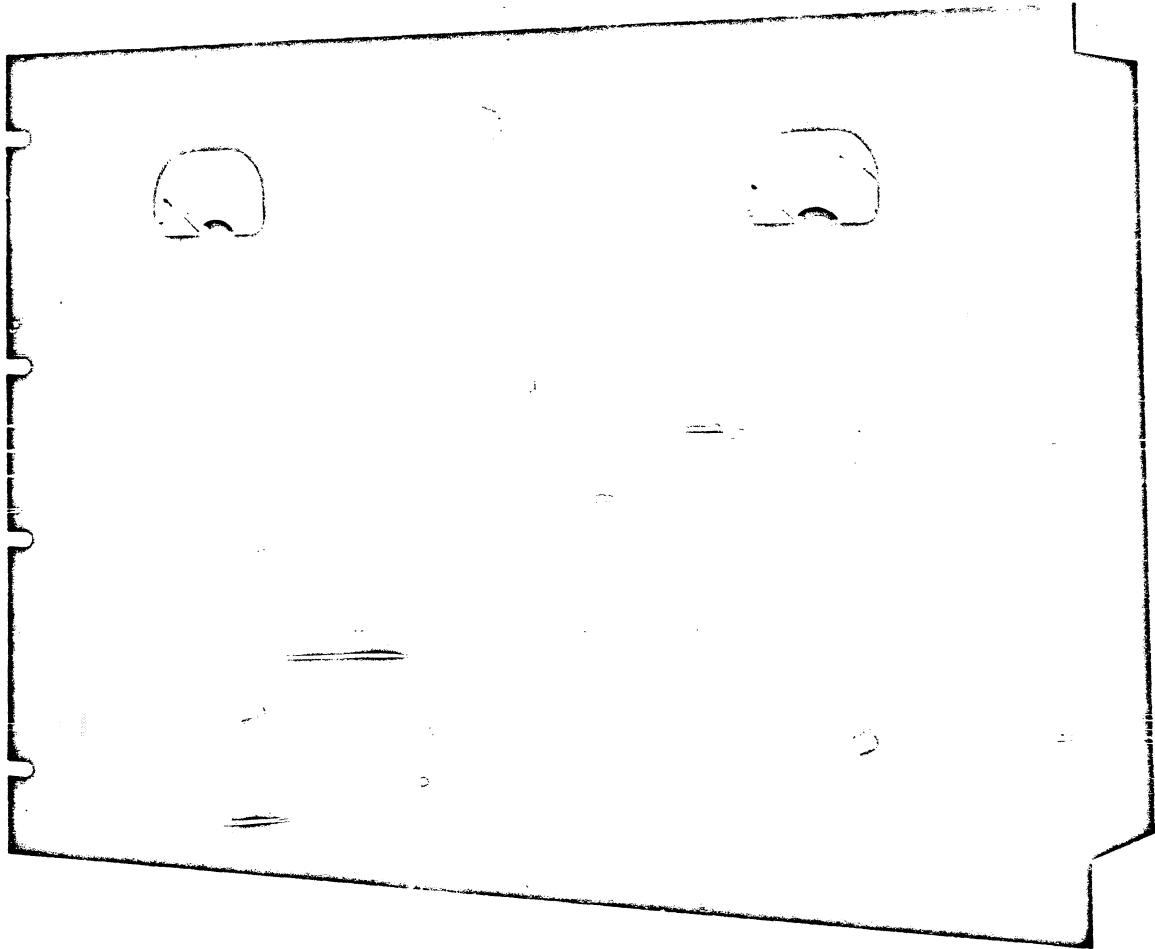

Figure 1-1. Type 26 W Limiting Amplifier
a. This instruction book is to be used as a guide to the installation, adjustment, operation and maintenance of the Collins Type 26W Peak Limiting Amplifier. Refer to Figure 1-1.
(1) The Type 26 W is constructed to mount in any standard 19" relay rack or cabinet such as the Collins Type 19G-2 or 19G-3. A vertical mounting space of 14" is required. The equipment is assembled on a vertical chassis in such a manner that all wiring and circuit components are accessible by removing a dust cover at the rear of the chassis. A hinged door in the front panel provides access to the tubes. A chassis is open at top and bottom assuring ventilation of tubes and transformers.
(2) The Collins 26W is a general purpose program amplifier including means for preventing the peak output signal from exceeding a certain pre-determined level. Metering facilities provide a continuous visual indication of operating conditions. A self contained power supply is included in the equipment.